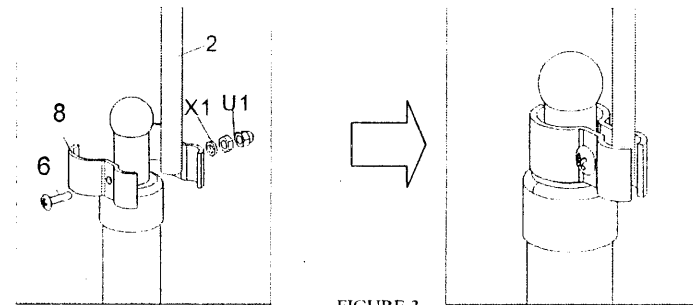

FIGURE 3
**FOR A Model:** Connect tube #2 to top cupusing screw (6), nylon washers (X1) and nut (U1). (See figure 3)